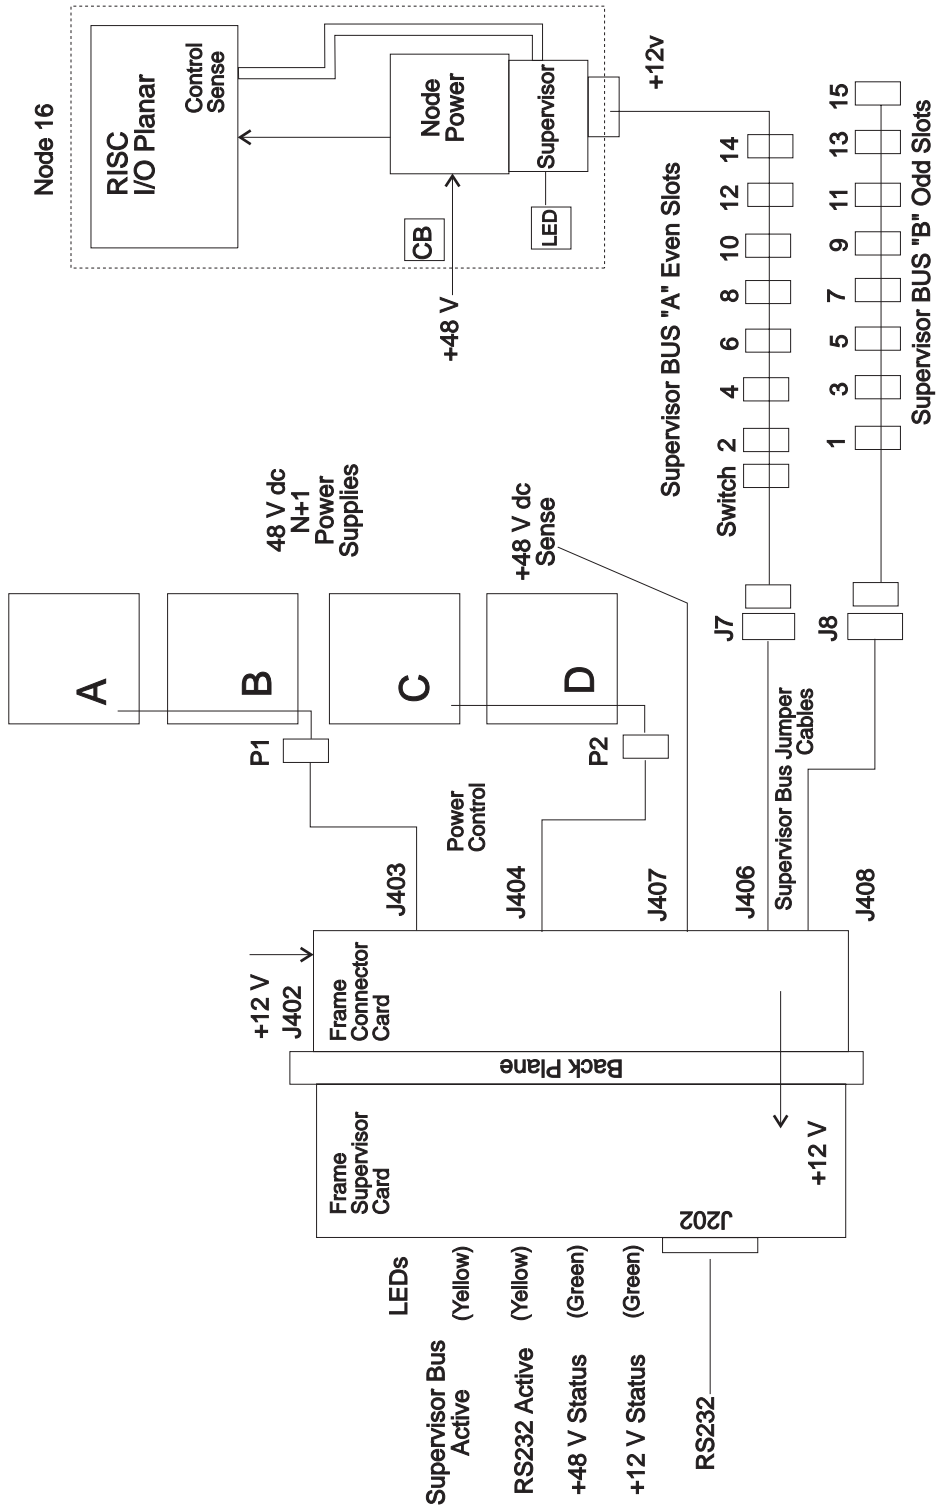

Figure 1-3. RS/6000 SP supervisor subsystem diagram (PDU)
- Figure 1-3 on page 1-15 illustrates the PDU supervisor subsystem